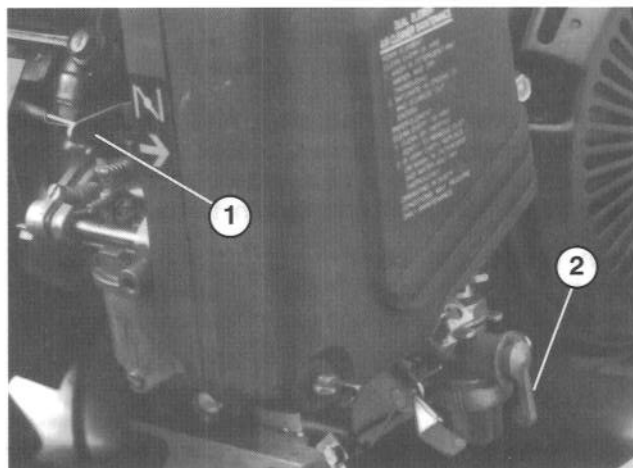

Figure 18
Choke Lever (Fig. 18) - Located on left front of engine. Lever has two positions: RUN and CHOKE. Move lever to CHOKE position when starting a cold engine. After engine starts move lever to RUN position.
Fuel Shut-off Valve (Fig. 18) - Located on left front of engine. Valve has two positions: CLOSED and OPEN. Move lever to closed position when storing or transporting machine. Open valve before starting engine.
2. Open fuel shut-off valve on engine (Fig. 18).
5. Move choke lever (Fig. 18) to half-open position when starting a cold engine. Choke may not be required when starting a warm engine.